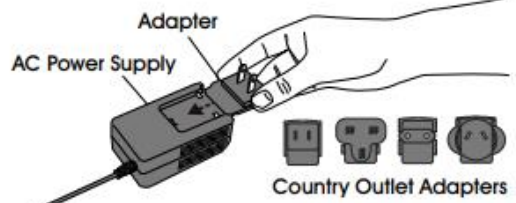

Figure 9
2. Choose the appropriate country outlet adapter and slide it into the AC power supply (Figure 9)